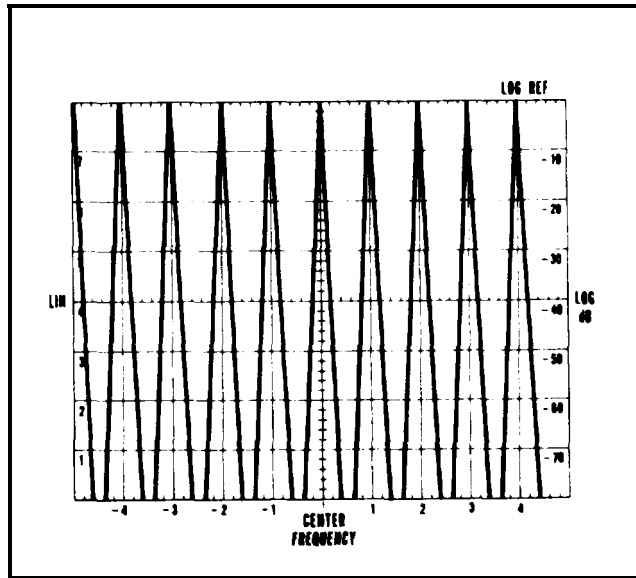

Figure 5-14. 50 MHz Bandpass Flatness Display
- 9. Tune FREQUENCY for display indicated in Figure 5-14 when FINE TUNE is rotated in 100 kHz steps.